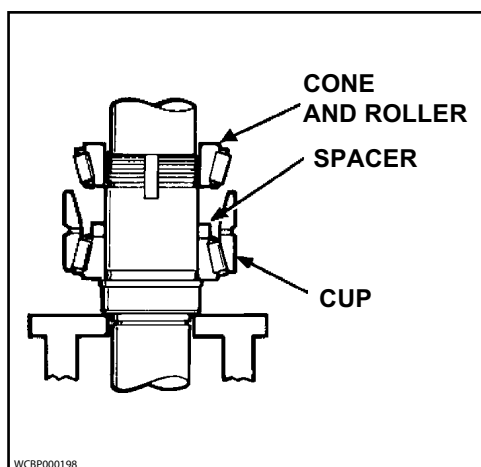

Figure 67 - Install Spacers, Cups and Cone
2. Place spacer over shaft onto bearing cone, as shown in Figure 67.
3. Place the bearing cup over cone and roller assembly, keeping the cup oriented with proper roller assembly, as shown in Figure 67.
4. Lubricate the remaining bearing cone and roller inside diameter with grease and slip them over the shaft with roller radius up. Press onto shaft and into cup to complete assembly of front bearing on shaft, as shown in Figure 67.